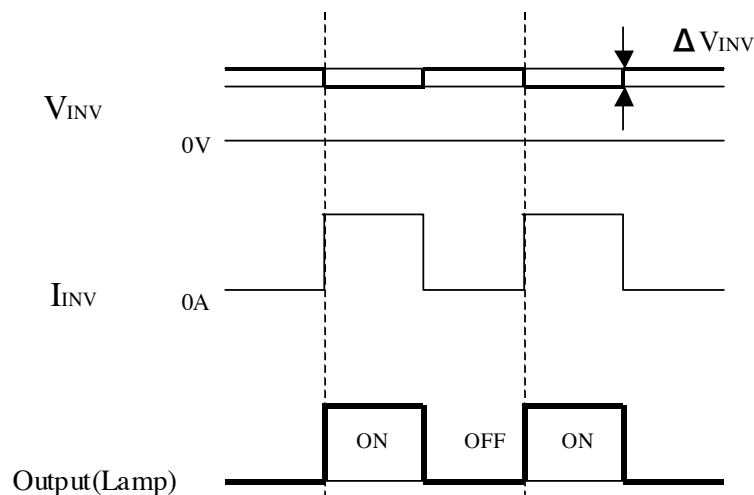

Fig5 Brightness control and ripple of V_{INV}
- Brightness control voltage is switched for "ON" and "OFF", as shown in Fig5. Voltage difference generated by this switching ΔV_{INV} , may affect a sound output, etc. when the power supply is shared between the inverter and its surrounding circuit. So, separate the power supply of the inverter circuit with the one of its surrounding circuit.